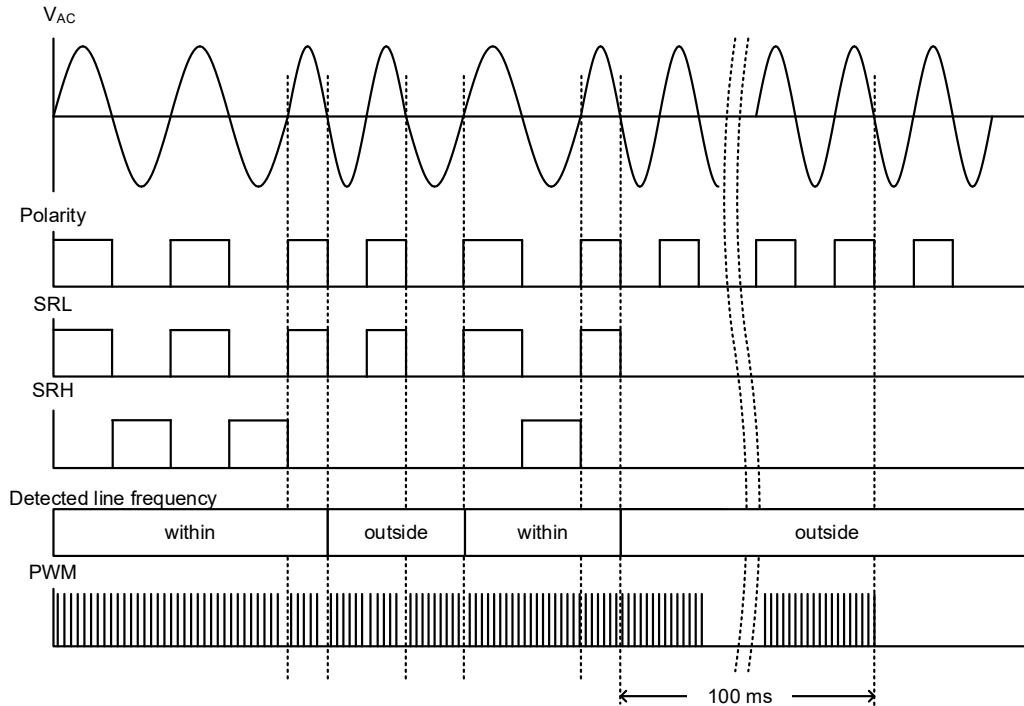

Figure 23. Line Frequency Fault
Figure 23 shows IC monitors whether the AC line frequency is within the mains frequency range ($f_{\text{LINE (LO)}}$ to $f_{\text{LINE (HI)}}$). If abnormal mains frequency is detected, following steps are operated.